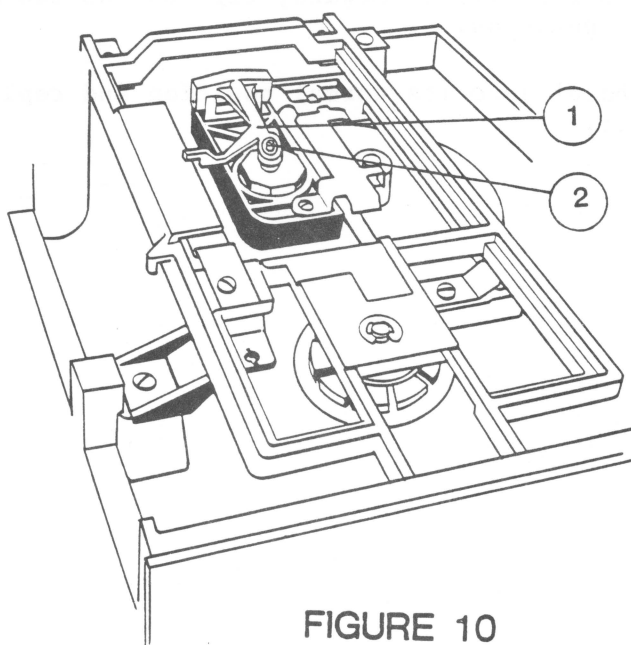

FIGURE 10
1. Lift the Head Load Arm up (Figure 10,#1) and squeeze the top part of the load button (Figure 10,#2) with thin needle-nose pliers and drop button down.